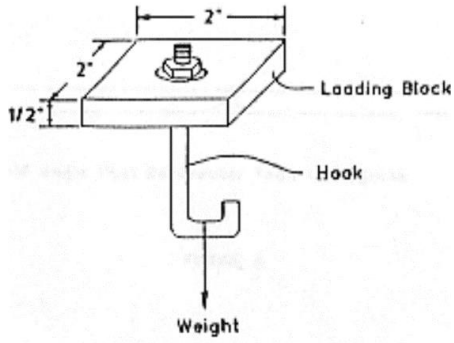

Figure 4: Deck required to hold a rectangular loading plat (2" × 2" × 1/2") for the loading mechanism
- c. The bridge must incorporate a balsa wood deck capable of supporting the 2" x 2" loading plate. The loading plate should be positioned on the deck at the same level as the support ends, as illustrated in Figure 4.
- a. The load will be applied by a 2" x 2" x 1/2" rectangular load plate with a mount for the loading mechanism to be applied. (Figure 4)